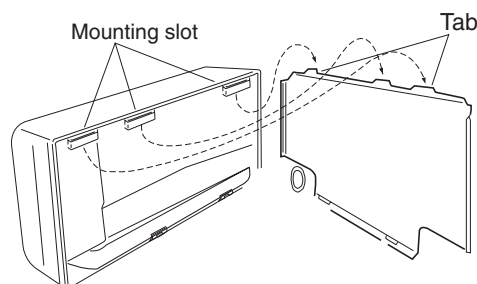

Fig. 1-42
- (a) Hang the 3 mounting slots of the unit on the upper tabs of the rear panel. (Fig. 1-42)